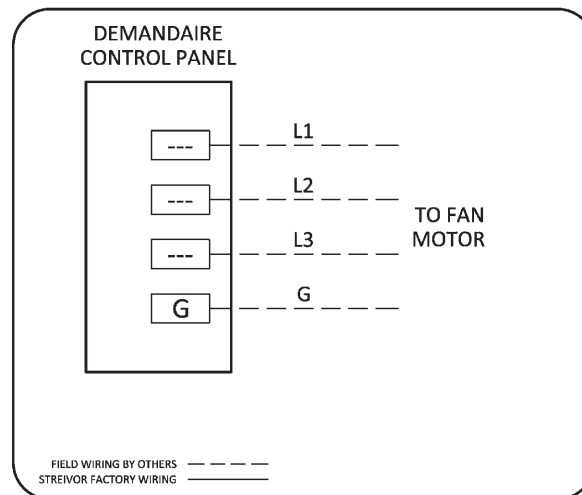

FIGURE 4: VFD Output Power Wiring
- The output terminals located on the VFD(s) have been pre-wired to the designated output power terminal blocks in the control panel. Connect the output power terminal blocks to the designated fan motor(s) as shown on the DCP Drawings (*Figure 4*).